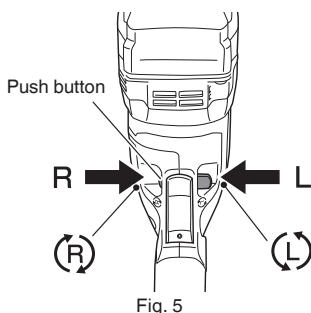

Fig. 5
- The dust cup and dust collector (B) are for exclusive use of concrete drilling work. Do not use them for wood or metal drilling work.
- Insert dust collector (B) completely all the way until it makes contact.
- When turning the rotary hammer on while dust collector (B) is detached from a concrete surface, dust collector (B) will rotate together with the drill bit. Make sure to turn on the switch after pressing the dust cup on the concrete surface. (When using dust collector (B) attached to a drill bit that has more than 190 mm of overall length, dust collector (B) cannot touch the concrete surface and will rotate. Therefore, please use dust collector (B) by attaching to drill bits which have an overall length of 166 mm or less.)
- Please replace the drill bit after removing dust collector (B).
- 6. Confirm the direction of bit rotation (Fig. 5)**